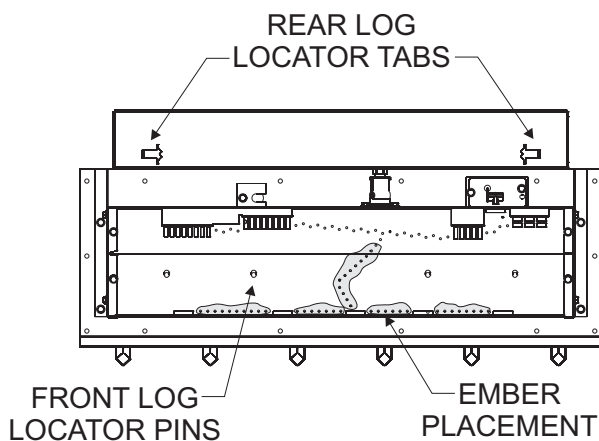
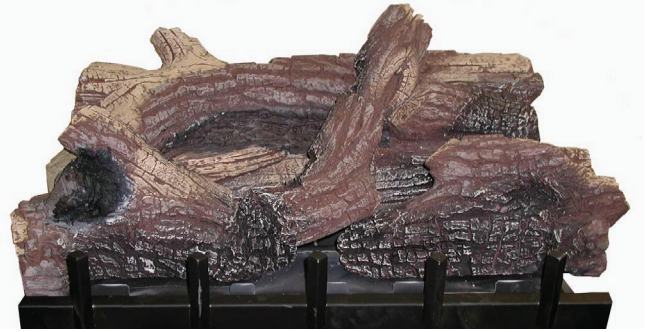
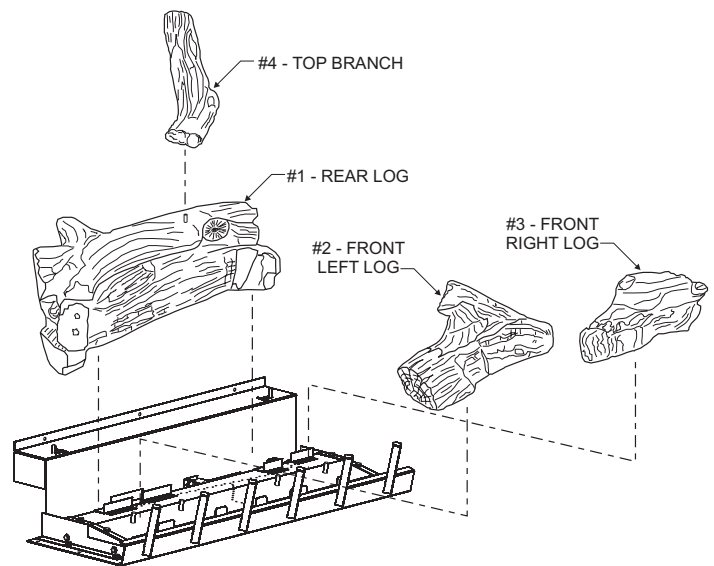

Figure 18
Figure 19
Figure 20
The positioning of logs is critical to safe and clean operation of this fireplace. Sooting and other problems may result if the logs are not properly and firmly positioned in the fireplace. Please refer to **Figure 18**, **Figure 19**, and **Figure 20** and corresponding WARNING, when completing the following log placement steps.
1. Place rear (#1) log onto two (2) pins on rear log support.
2. Place left, front (#2) log onto two (2) left, front pins on burner pan.
3. Place right, front (#3) log onto two (2) right, front pins on burner pan.
4. Place Branch (#4) onto one (1) pin on rear log
6. After all logs are properly positioned, place small "dime" size pieces of Rockwool lightly across the front round "blueflame" ports. Place the ember material (Rockwool pieces) side by side. Do not stack more than one layer of embers across the burner ports. **See Figure 18.**
Attention: Do not use **Figure 19** or **Figure 20** to order logs. Refer to parts view on page 37 and parts list on page 36 to order logs and/or ember material for your appropriate fireplace model.